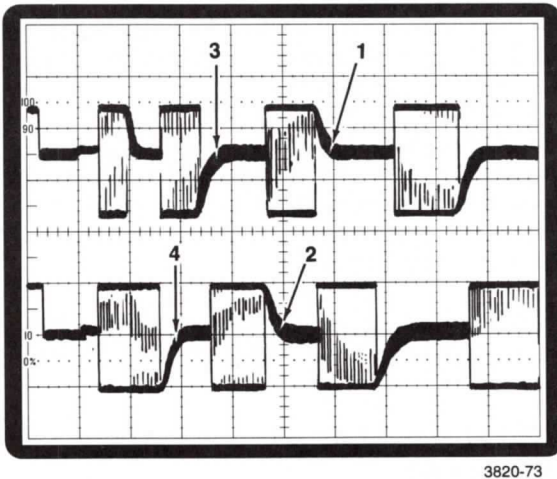

Figure 4-4. Charge Pump Waveform.
- g. ADJUST — R605 (Pump Up/Down) and R704 (Pump Down) for the best waveform at TP502 and TP 525 (externally triggered) while obtaining an optimum charge pump pattern on the display. See Figures 4-4 and 4-5.